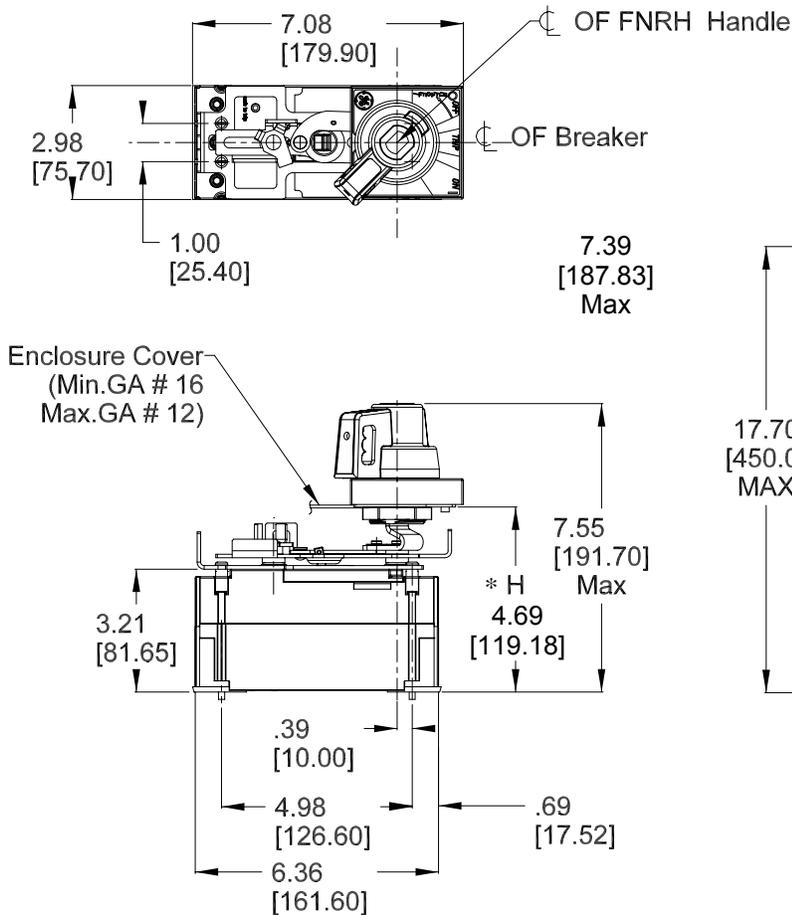
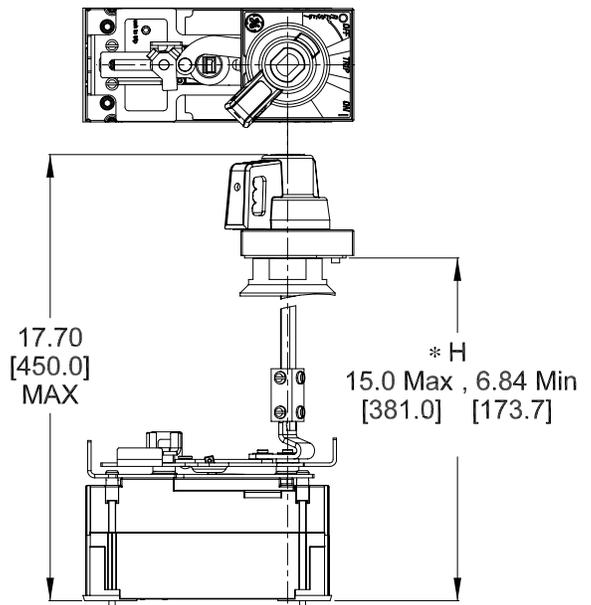

Figure 13. Outline view of completed FCNRN installation.
Figure 14. Outline view of completed FCNRT installation.
- FCNRR provides the necessary parts for shallow door mount of the handle on the breaker mechanism through the enclosure door, with a box depth of 5.0 inches (127 mm), as shown in Figure 1a. Maintain the dimension “H” [4.69 inches (119.0 MM)] as shown in Figure 13.
- FCNRT is for mounting the handle and operator in enclosures with variable depth, as shown in Figure 1b. Maintain the dimension “H” [Min 6.84 inches (173.7 mm) and Max 15 inches (381.0 mm)] as shown in Figure 14.
Figure 13 and Figure 14 are outline views of completed installations with dimensions.